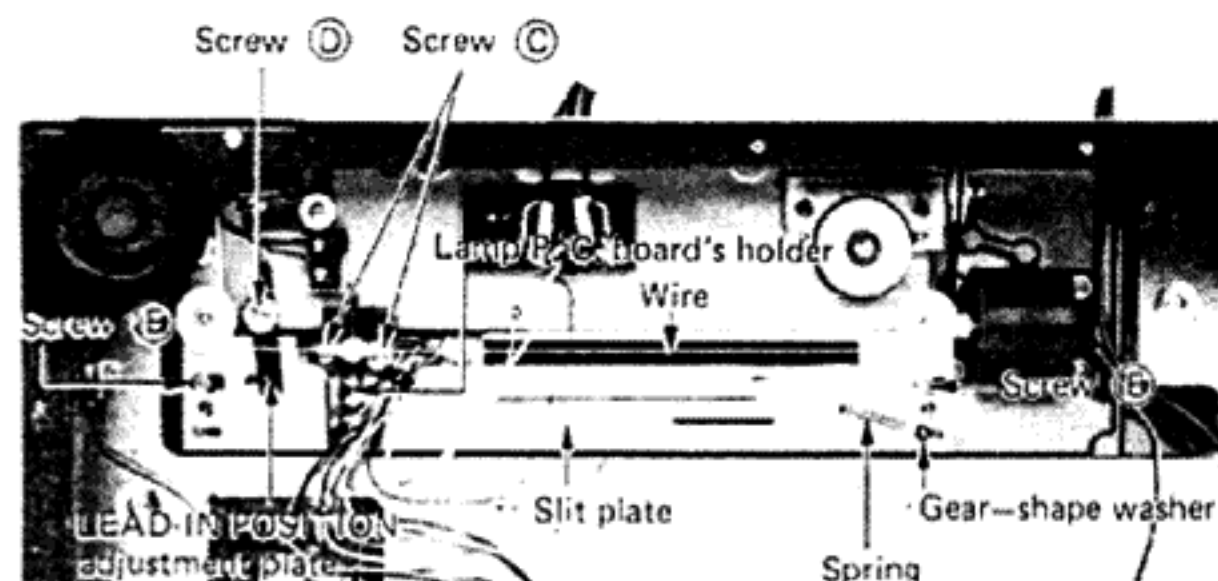

Fig. 2
- Remove the two screws ③ shown in Fig. 2 and take off the lamp P. C. board's holder. As a wire used for driving the tonearm base is stretched across the area above the screws, keep this wire out of the way with your fingers.
- Remove screw ④ shown in Fig. 2 and detach the LEAD-IN-POSITION adjusting plate.
- Remove the two screws ⑤ shown in Fig. 2 and remove the slit plate.